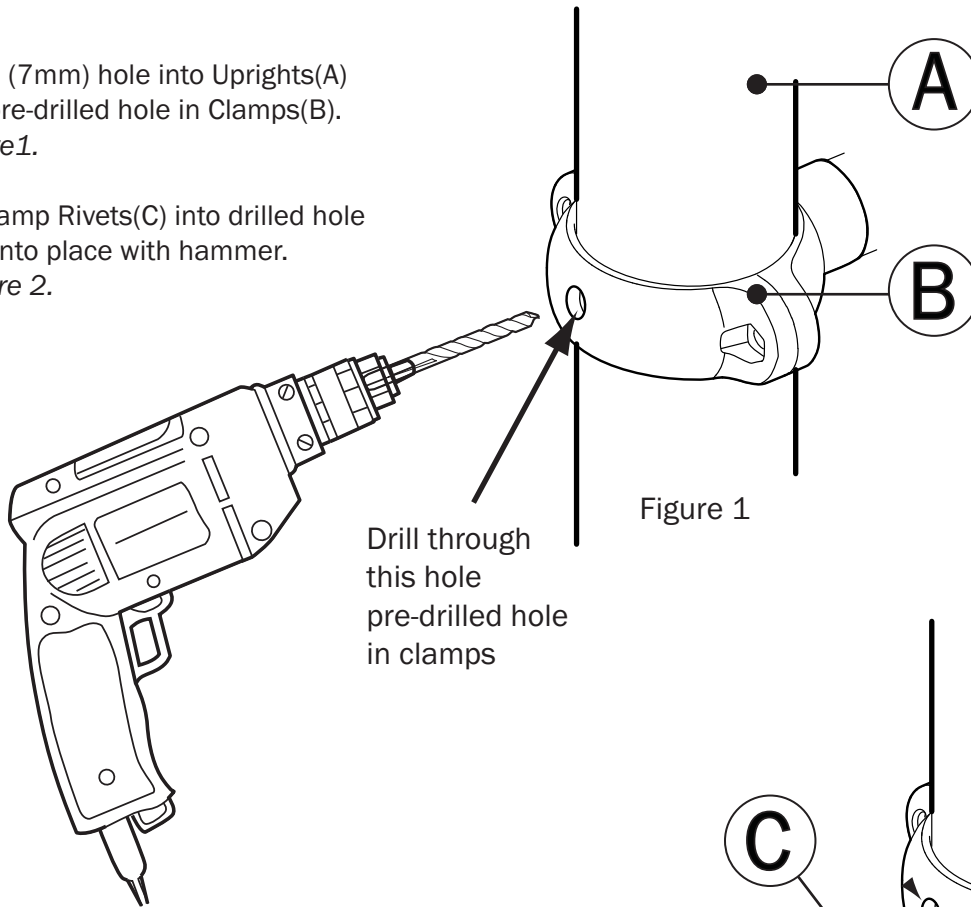

Figure 1
2. Insert Bolt(C) and Flat Washer(D) into slots in Handrail(A) and into slots in Barrier and secure with Flat Washer(D) and Lock Nut(E). See Figure 1.
1. Insert Bolts(D), Lock Washers(E) and Flat Washers(F) into slot in Mounting Bracket(B) into holes in underside of Slide(A) and tighten. See *Figure 1*.
1. Align slots in Deck with (3) lower holes on back of Straight Slide.
2. From underside of Deck, insert Bolt(A), Lock Washer(B) and Flat Washer(C) into center slot in Deck and lightly tighten. See *Figure 1*.
3. Repeat steps 1 and 2 for the remaining (2) Bolts(A).
4. Tighten Bolts(A) securely.
1. From front side of Slide Hood, insert Bolt(B) and Flat Washer(C) into Slide Hood, through deck and secure with Flat Washer(C) and Lock Nut(D). See Figure 1.
1. Drill 1/4" (7mm) hole into Uprights(A) through pre-drilled hole in Clamps(B). See Figure 1.